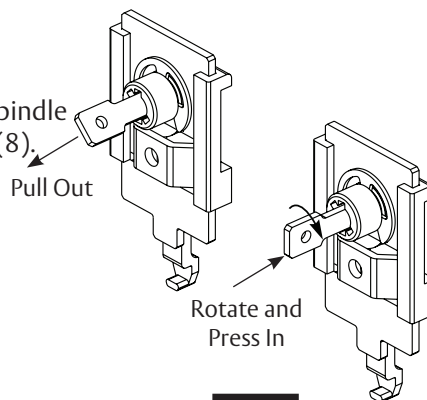

Figure 18
- 15. Reposition spindle as shown in Figure 18 if necessary.